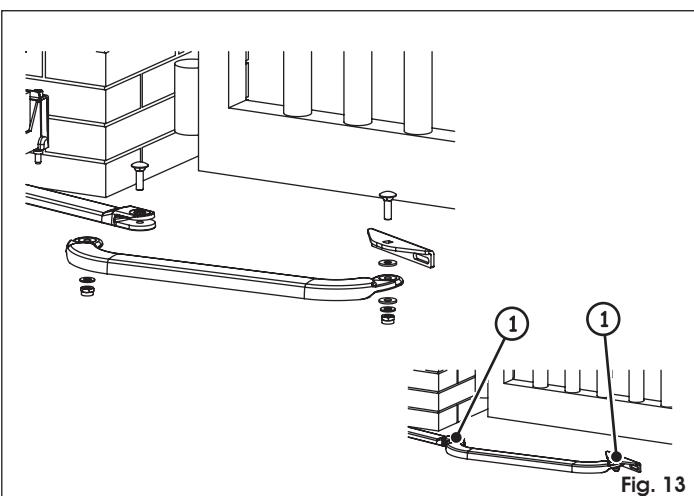

Fig. 13
7. Assemble the rest of the arm as illustrated in Fig. 13.
⚠ For correct operation, tighten the two securing screws (Fig. 13 ref. ①) and then loosen them by about 1/2 turn to enable rotation without any friction on the arms.